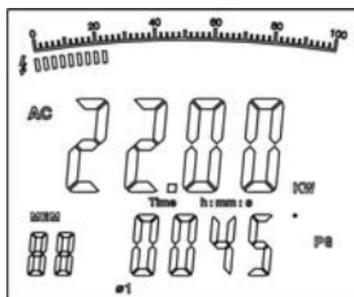

Figure 7
1. Press **SEL** to choose first phase **1**, see figure 7. The double displays show the active power kW value and the PG value of the second phase **1**.